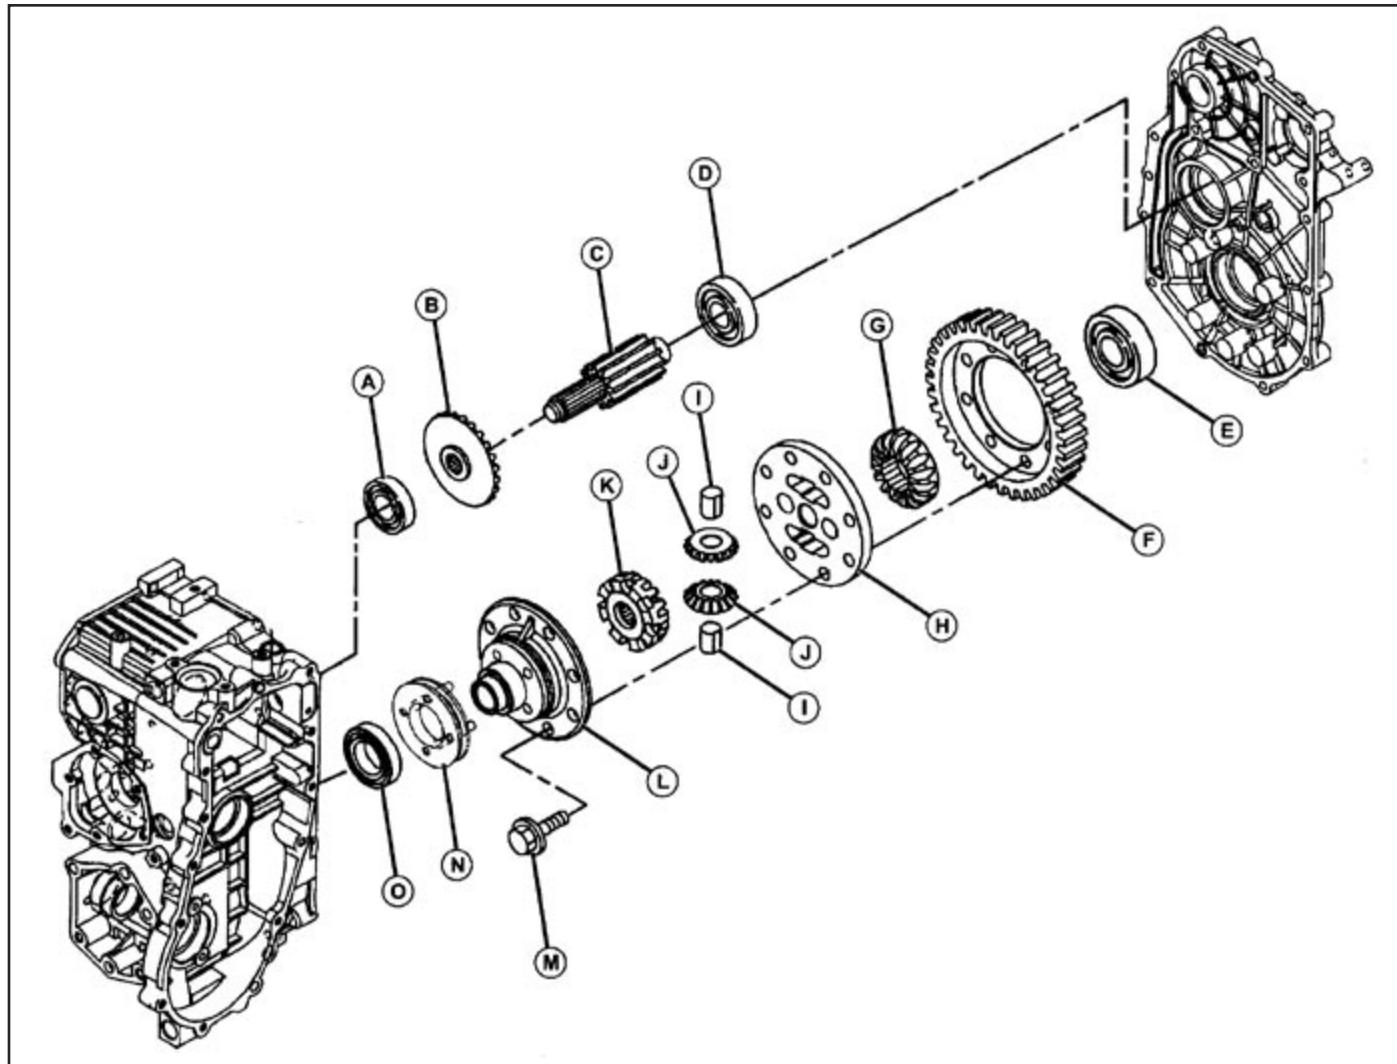

Fig. 39, Differential (2WD) Disassembly
- 6. Check differential holder (L) and carrier (H) for wear, cracks or damage. (Fig. 39)
(Fig. 39)
10. Install final gear on differential holder and carrier with the deeper offset of gear center away from the holder. Tighten eight differential cap screws (M) to 88 N·m (65 lbft).
11. Install differential lock collar (N) and left and right bearings (O). Push bearing tight against shoulder of differential holder. (Fig. 39)